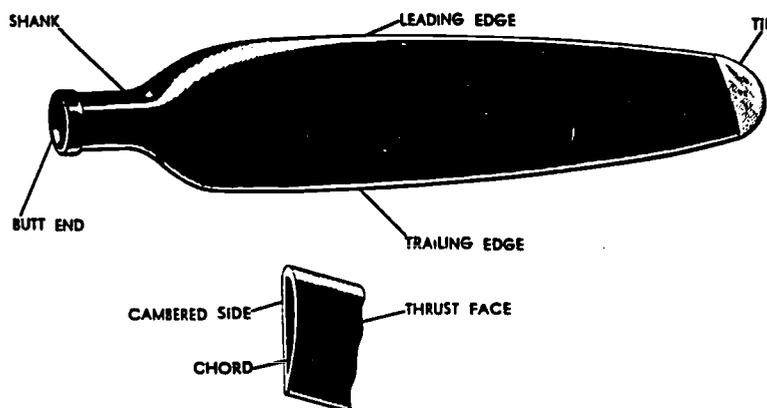

Figure 27. The Propeller Blade's Elements.
*Propeller parts.*—The propeller blade has a leading edge and a trailing edge, just as a wing does (Fig. 27). The leading edge is the